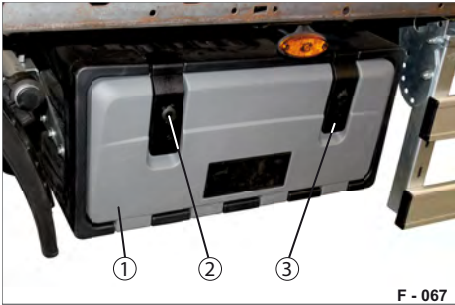
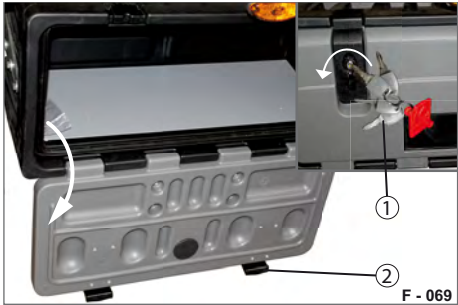

Fig. 97 Toolbox closed
Fig. 99 Toolbox open
- Remove the covers (Fig. 97/2) from the lock cylinders and close the lid (Fig. 97/1) with the key (Fig. 99/1).
- Pull out the locks (Fig. 99/2) from below and twist them downwards.
- Clasp the locks (Fig. 99/2) from above and press them downwards.
- Lock with the key (Fig. 99/1) and fasten the cover over the key cylinder (Fig. 97/2).